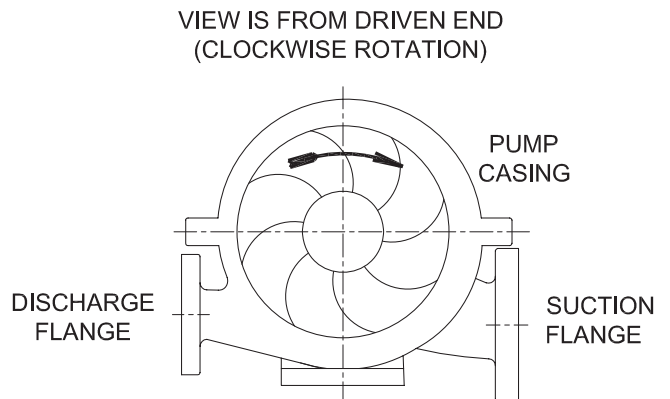

Figure 4 SUCTION FLANGE IS LARGER THAN DISCHARGE FLANGE
1. Install both impellers and interstage diaphragm, with gasket between impellers. Make sure impeller is installed on shaft the same way it came off, per mark put on it during disassembly. (Double check vane curvature as indicated as shown in Figure 4.